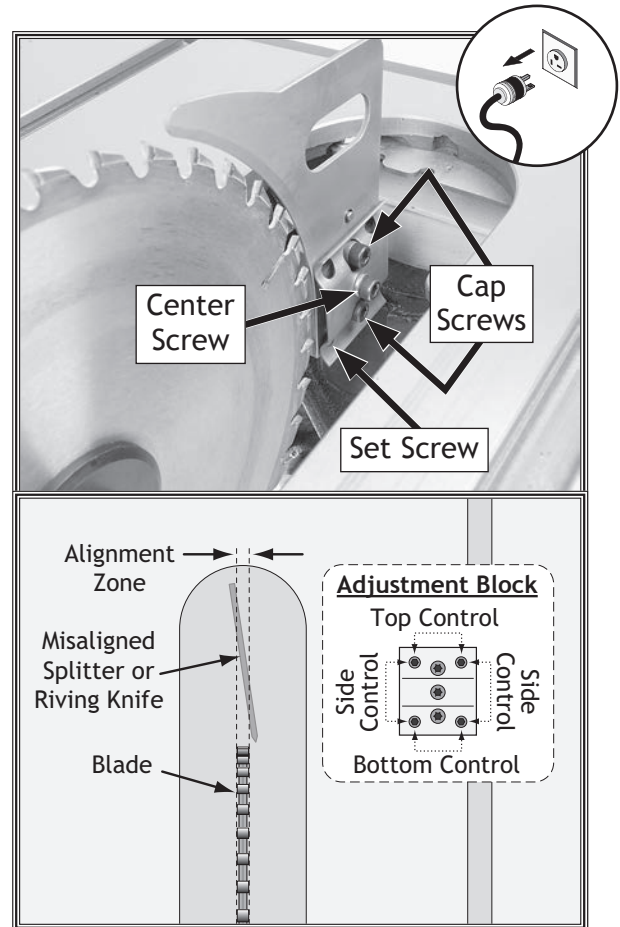

Figure 104. Set screws for adjusting spreader/riving knife position.
3. Adjust each pair of set screws that controls the direction required to move the mounting block so the riving knife can be aligned with the blade (see **Figure 104**). Make sure to move both screws in even increments.